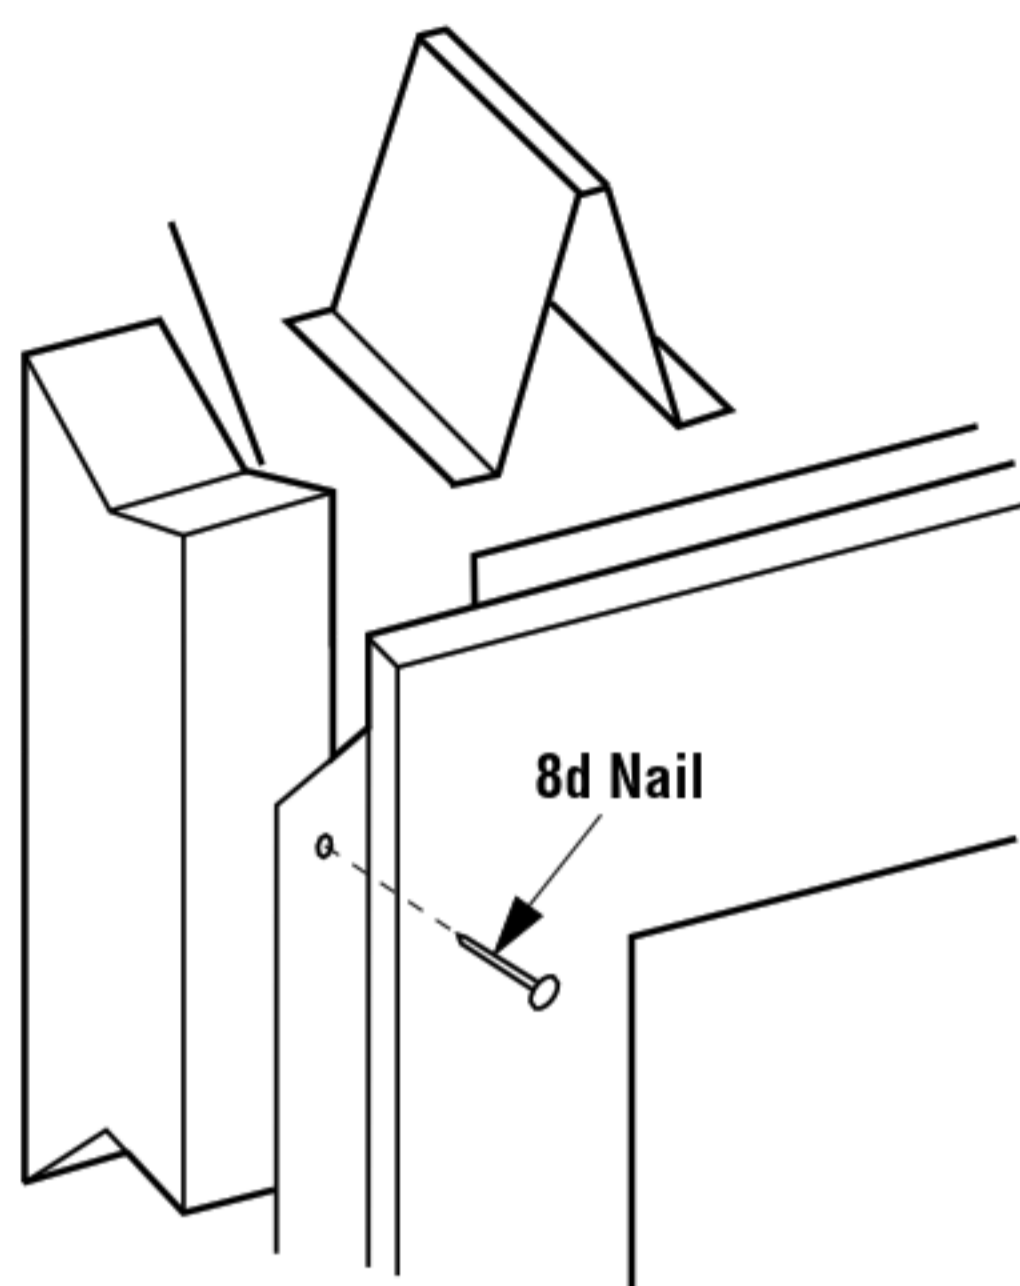

Figure 17
Step 4. Fireplace should be secured to side framing members using the full length nailing tabs at the top and bottom of the fireplace front face. Use 8d nails (*Figure 17*).